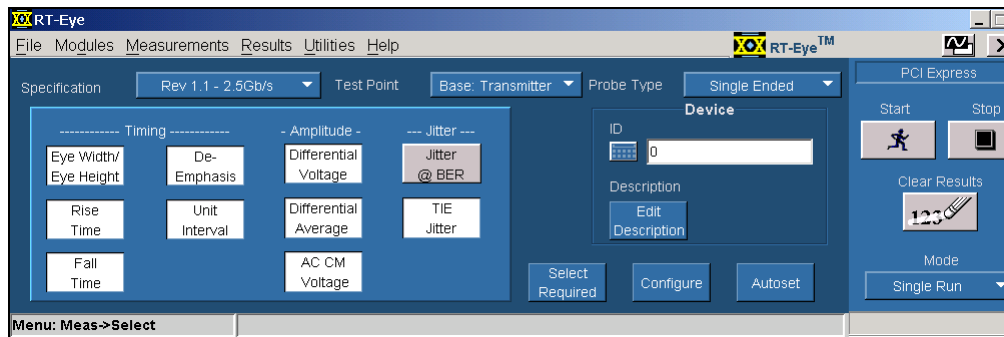

Figure 19: Measurements Select menu setup
3. In the Measurement Select menu (Figure 19), choose Single-Ended (for probe configuration A defined in Section 3) or Differential (for probe configurations B defined in Section 3) as the probe type.